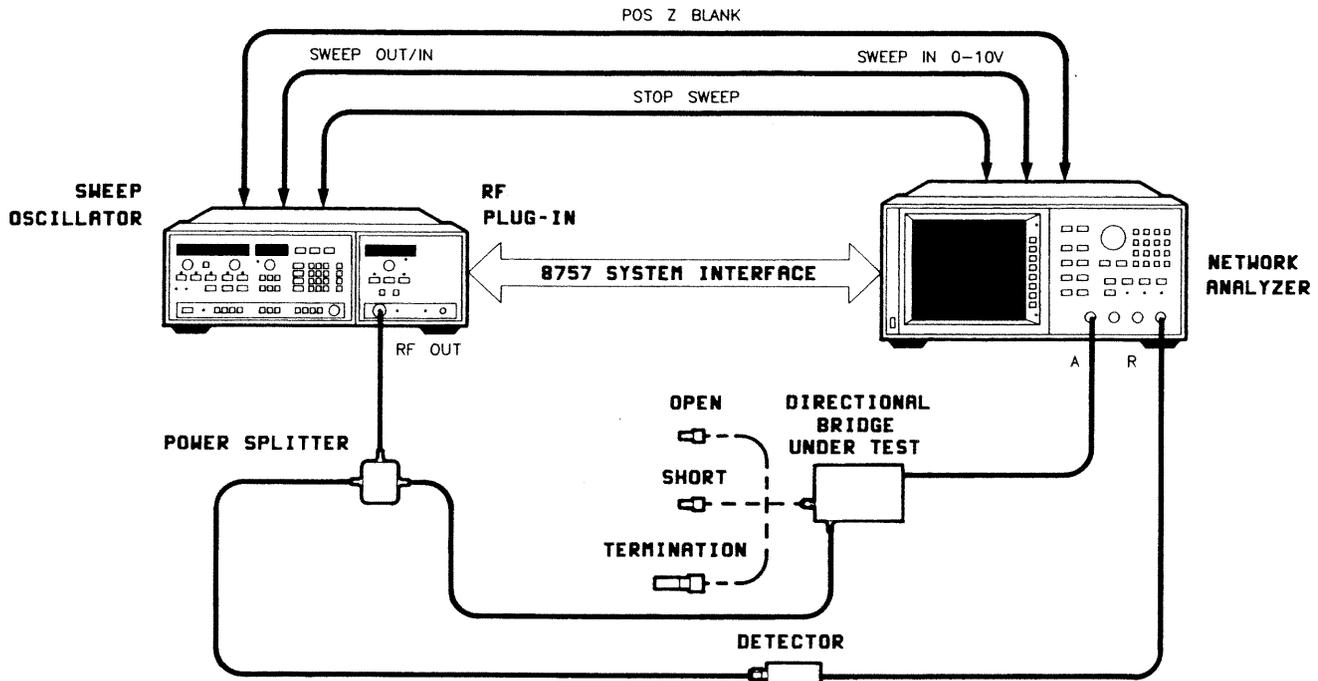

Figure 4-1. Directivity Test Setup 0.01 to 4 GHz
1. Connect the equipment as shown in Figure 4-1. Allow 30 minutes warm-up. Set the bridge configuration switch to **HP 8757**.